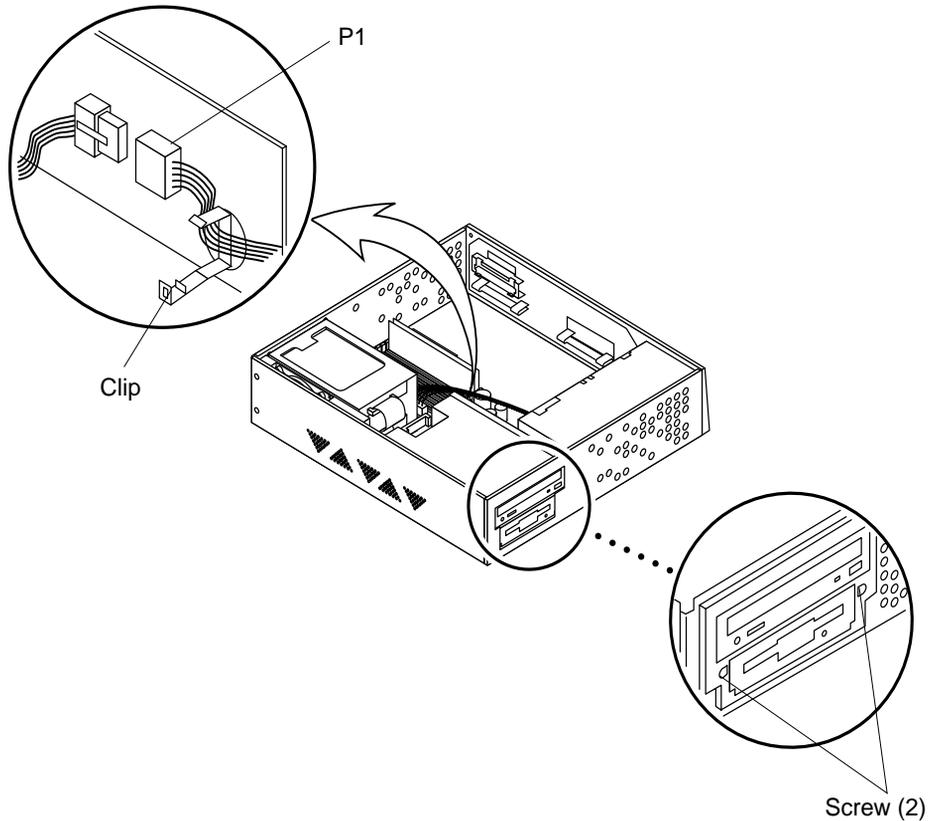

FIGURE 8-17 Removing the Drive Bracket
4. **Disconnect the DC harness as follows (Figure 8-17):**